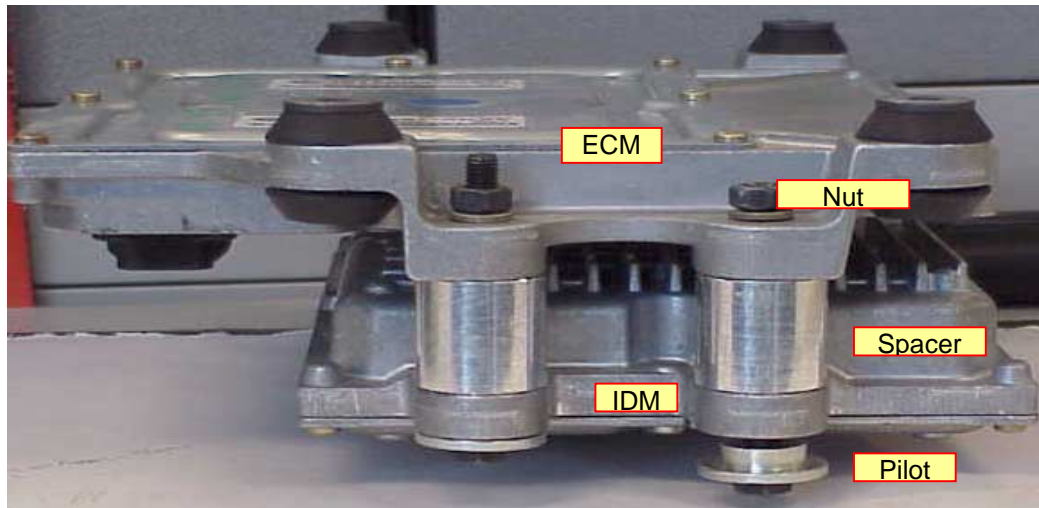

Figure 8: Assembly of the ECM to the IDM
- a. Orient the ECM and IDM as shown in Figure 8.